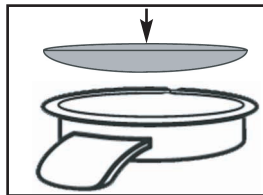

FIGURE 9
6. Place one coffee pod inside the Pod Holder. Press lightly on the coffee pod to make sure it sits evenly in the Pod Holder. See Figures 9 and 10 for correct pod insertion.
- the pod must be properly placed so it sits evenly in the holder. Lightly tap it down into the holder. See Figure 9.